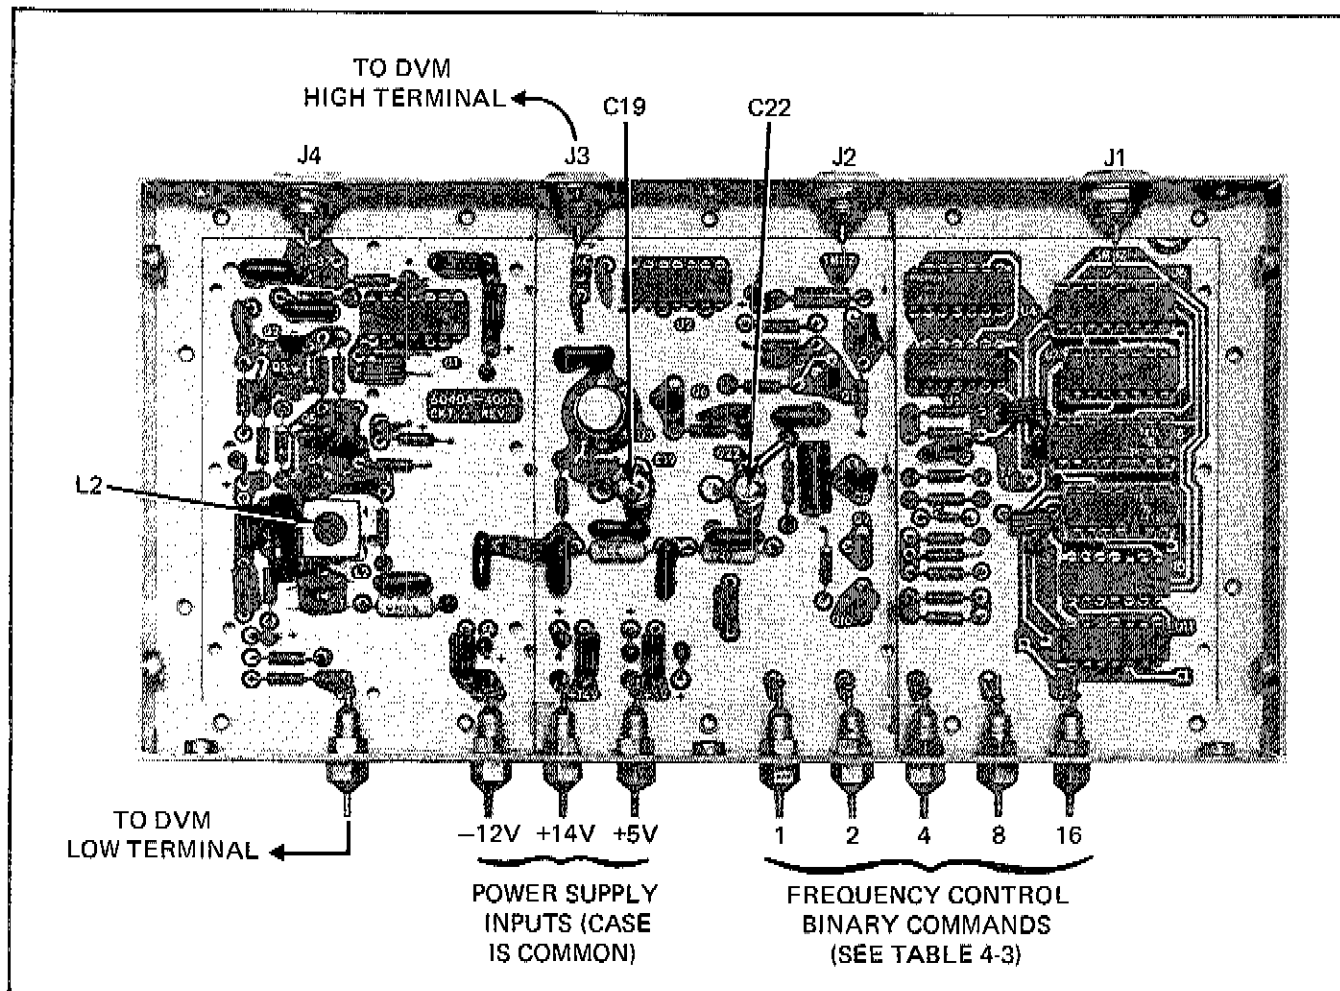

Figure 4-8. 1 MHz STEP LOOP (6160B-4153-1) ADJUSTMENT LOCATION AND DVM CONNECTION
- d. Connect DVM set for dc measurement to points indicated in Figure 4-8. Adjust L2 (See Figure 4-8 for location) for DVM indication within +1.49 Vdc to +1.51 Vdc.
- j. Program STP LP for 18 MHz and adjust C22 (See Figure 4-8 for location) for minimum upper 2 MHz sideband at center of display. (Spurious should be ≤ -90 db from fundamental).
- l. Adjust C19 (See Figure 4-8) for minimum upper 1 MHz sideband at center of display on spectrum analyzer. (Spurious should be ≤ -70 dB from fundamental).